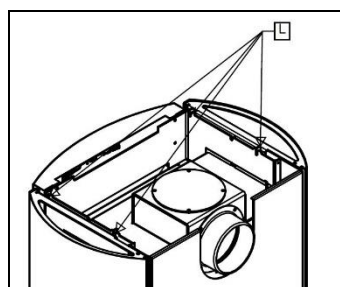
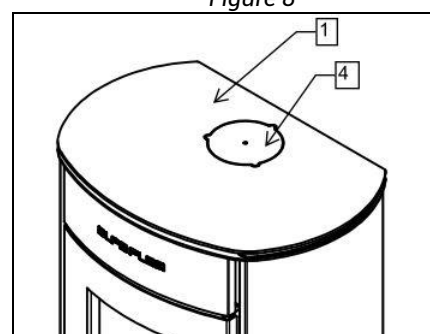

Figure 9
Figure 11
- Return the top plate (Figure 11, item 1) to its place, making sure the supports (Figure 9, item L) fit into the holes on the lower part of the top plate.
- Place the cover in the appropriate position on the top plate – assembly (Figure 11, item 4).